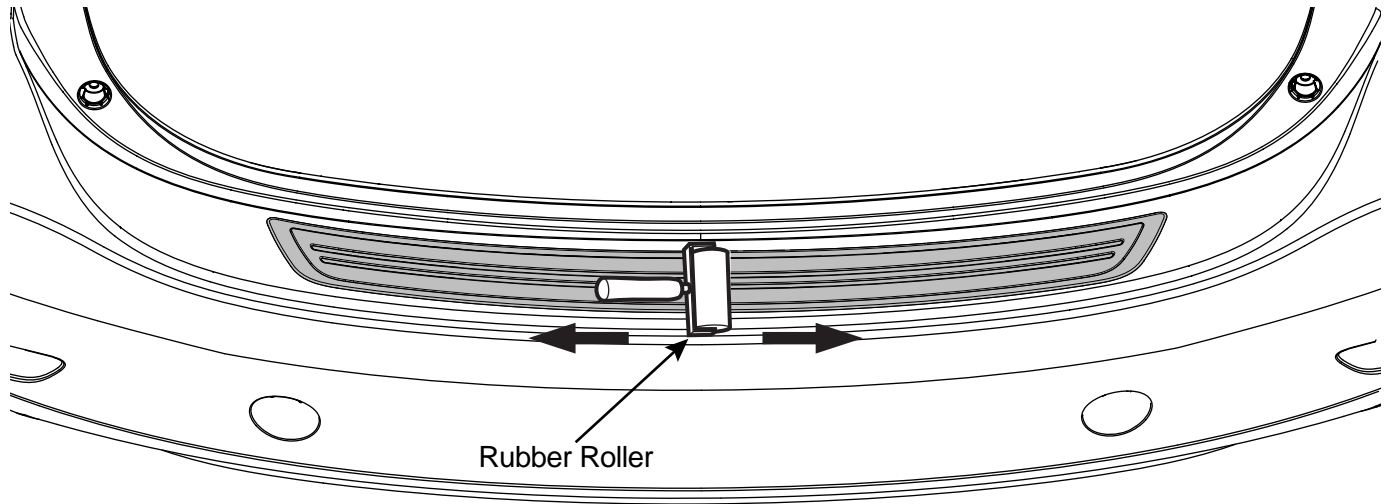

Figure 8
- B. Use rubber roller, from the center out, press down the perimeter of part to ensure proper bond of adhesive (Figure 8). (Use caution to ensure roller does not scratch vehicle).